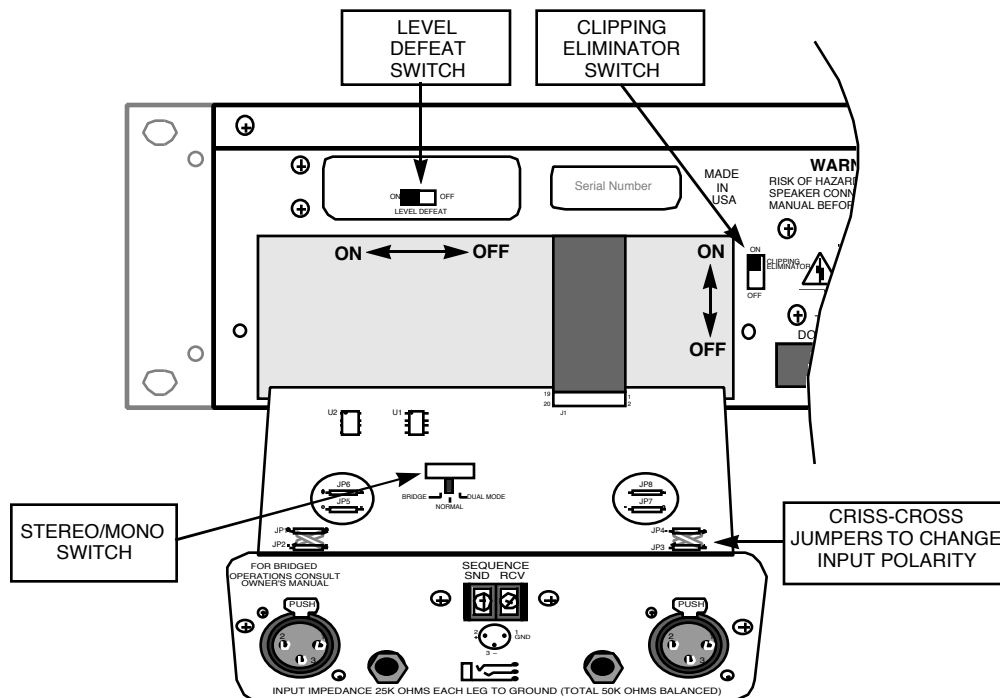
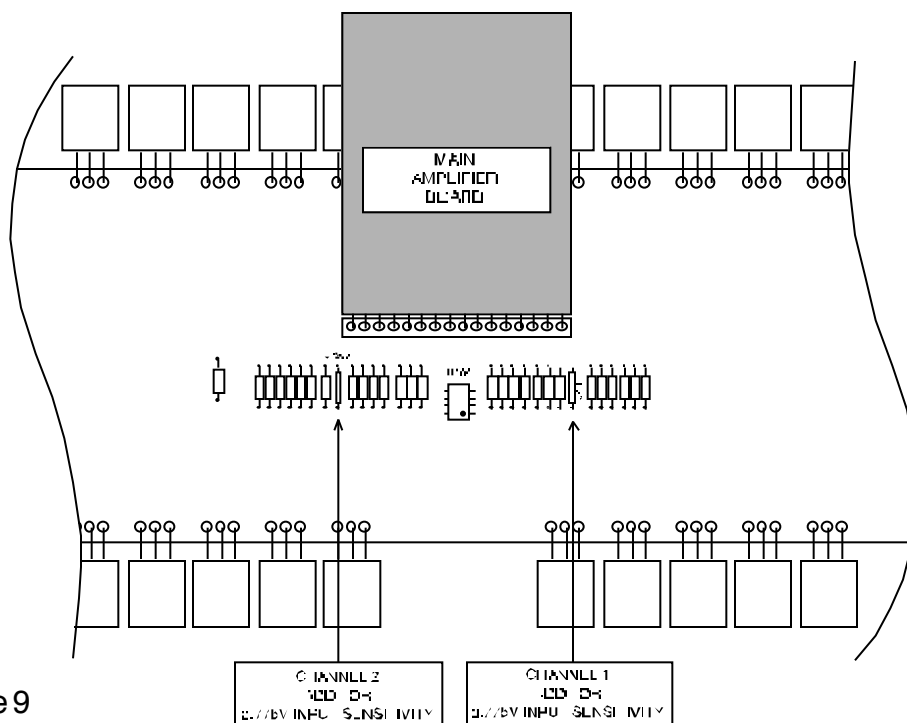

Figure 8
Figure 9
4. See Figure 8 for the locations of the Level Defeat Switch, Stereo/Mono Switch, Clipping Eliminator Switch and Input Polarity jumpers. See Figure 9 for the location of the Input Sensitivity jumpers.
The Stereo/Mono Switch is located on the input board, which is attached to the input panel (see Figure 8). Leave the switch centered for normal stereo operation, move it to the left for Bridged Mono operation, and move it to the right for Dual Mono operation.
The input sensitivity of the amplifier is set at the factory to 1.5VRMS for rated output. To increase the sensitivity by 6dB to 0.775VRMS, simply install jumpers JP100 (CH 1) and JP200 (CH2), which are located on the Main Amplifier Board (see Figure 9).
The XLR input connectors on the pm1400 are shipped from the factory with pin 2 hot (+), as indicated on the rear panel. The polarity of the balanced inputs can be reversed by changing four jumpers located on the Input Board. Cross-wire JP3 and JP4 to change the input polarity of CH 1 and cross-wire JP1 and JP2 to change CH2 (see Figure 8).